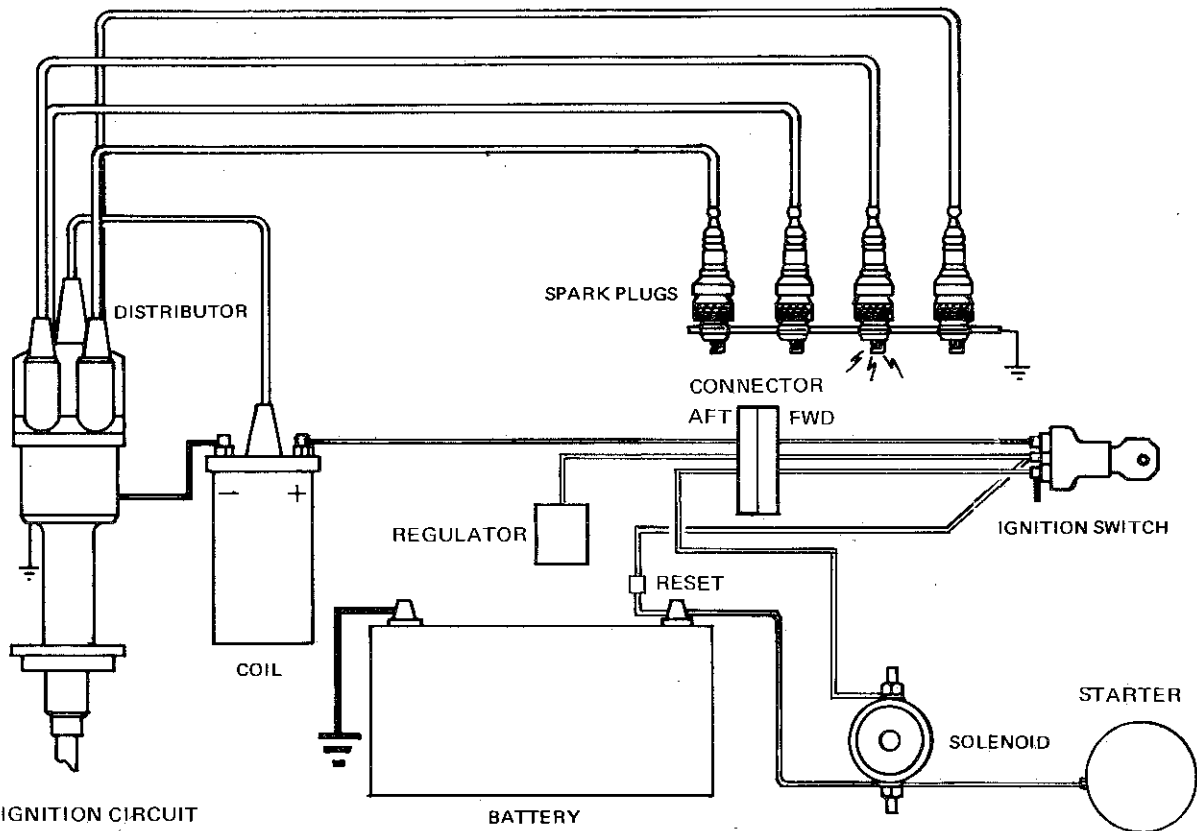

Figure IV-37 IGNITION CIRCUIT
D. IGNITION SYSTEM (figure IV-37)